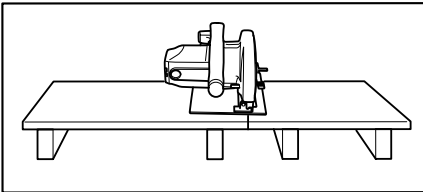

Fig. 1
8. **Support Large Panels (Fig. 1 & 2).** Large panels must be supported as shown in Fig. 1 to minimize the risk of blade pinching and kickback.
10. **Guard Against Kickback. (Fig. 1 & 3)**
Kickback occurs when the saw stalls rapidly and is driven back towards the operator. Release switch immediately if blade binds or saw stalls. Keep blades sharp. Support large panels as shown in Fig. 1.